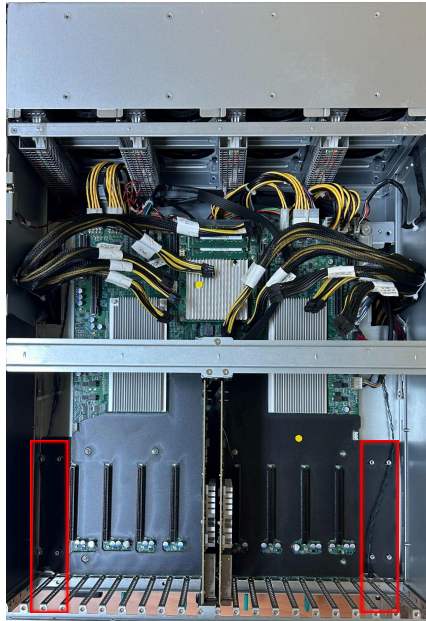

Figure 22. 10 GPUs with 2 expansion cable sets (cable CEMs)
Step 2. Verify SKU Configuration: Open the chassis and check the expansion cable set (Cable CEMs) count (refer to Figure 22):